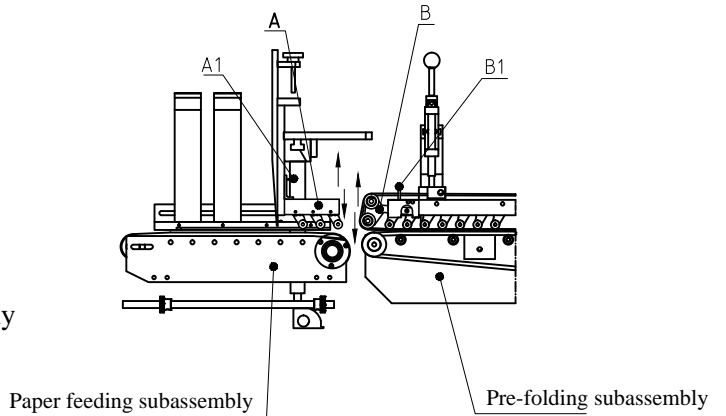

Fig 2-1
- ② Turn the jiggle bar (b) to left/right, the moving conveying base see Fig.201, normally the position of two conveying bases are in the middle of the machine, the interval between the bases are to be decided according to the width of paper. Adjustment of Paper feeding speed governor(C), turn the knob (C1) to left/right, see Fig.2-1, which is to increase or reduce the paper feeding speed of paper feeding unit. Higher the speed, smaller the interval of paper boxes entering the pre-folding unit, vice versa.